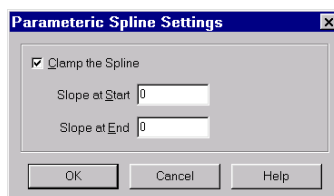

Figure 8-23. The Parametric Spline Settings dialog.
1. Select the appropriate mappings in the Mapping Style dialog and click Curve Settings. The Parametric Spline Settings dialog appears as shown in Figure 8-23.